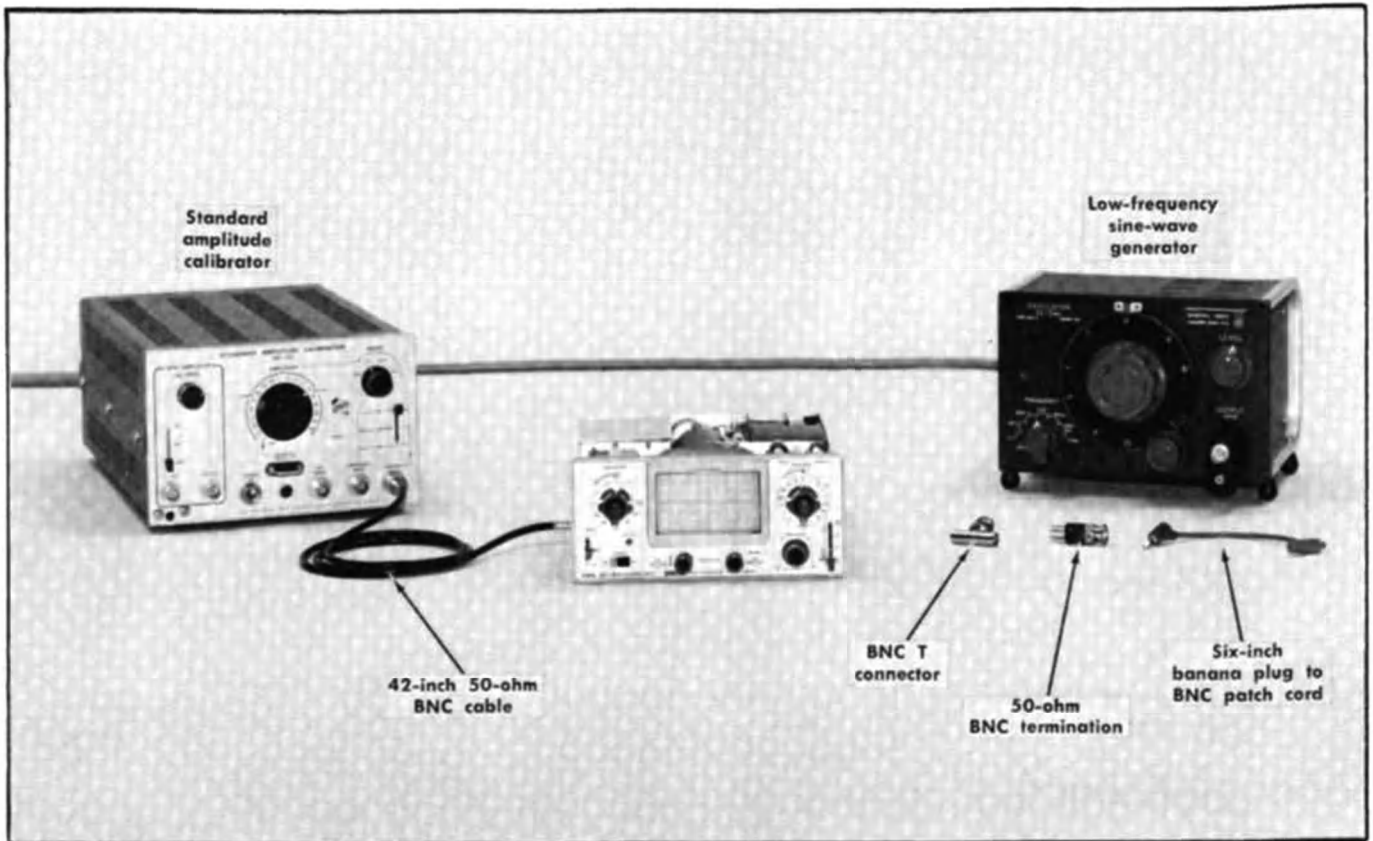

Fig. 6-18. Initial test equipment setup for steps 39 through 45.
- Test equipment setup is shown in Fig. 6-18.